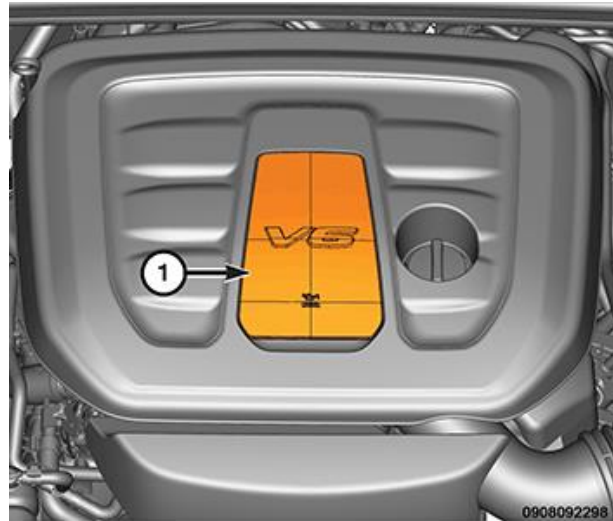

Figure 2 – Oil Filter Access
4. Remove the oil filter access cover (1) (WD and WK vehicles) (Figure 2).
12. Install the oil filter access cover (Figure 2).